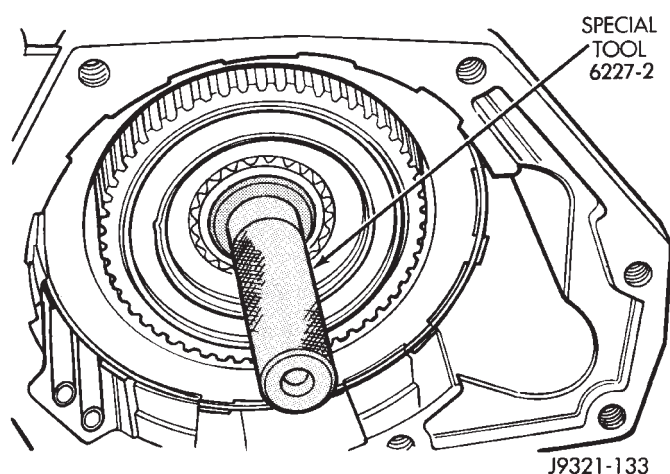

Fig. 4 Overdrive Spline Alignment Tool Installation
- (a) If overdrive unit does not require service, insert Alignment Tool 6227-2 in overdrive unit overrunning clutch and planetary gear to maintain spline alignment (Fig. 4). **If clutch and gear splines rotate out of alignment, overdrive unit will have to be disassembled in order to re-align splines.**